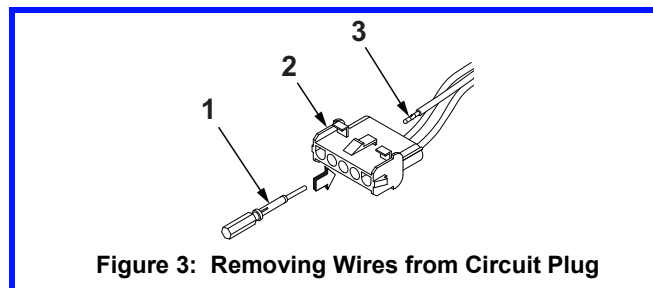

Figure 3: Removing Wires from Circuit Plug
3. Use a Pin Extraction Tool (for 16AWG wire) to remove the wire leads from the 9-5-Connector Circuit Plugs. See Figure 3.